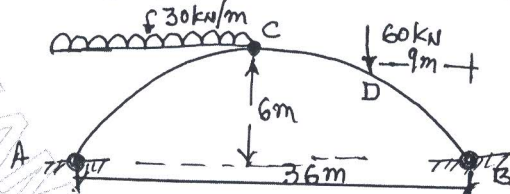

Fig.Q5(b)
- b. Determine the normal thrust, radial shear and bending moment at quarter span and draw BMD for the three hinged parabolic arch is shown in Fig.Q5(b).